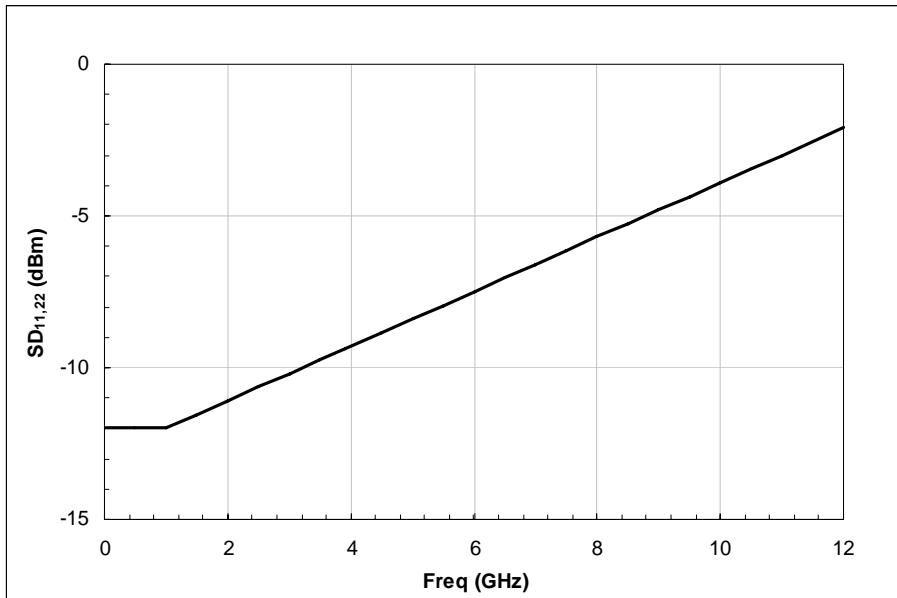

Figure 4. Maximum Transmitter Input and Receiver Output Differential Return Loss
2. Return Loss given by equation $SDD11(\text{dB}) = -12.9 + 0.9 \cdot f$, with f in GHz. See Figure 4
2. Differential Return Loss given by equation $SDD22(dB) = -12.9 + 0.9 \cdot f$, with f in GHz. See Figure 4